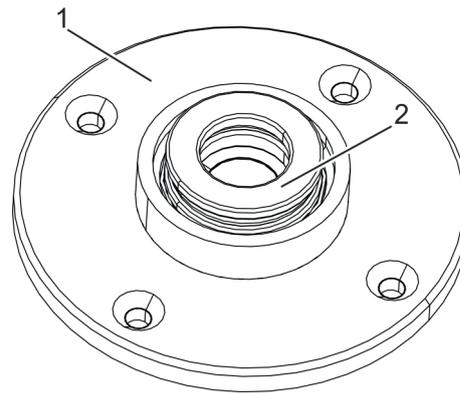

Fig. 90 Floor bearing
7. Insert the floor bearing (Fig. 90/2) into the bearing shell (Fig. 90/1) according to the manufacturer's instructions provided and lubricate it.